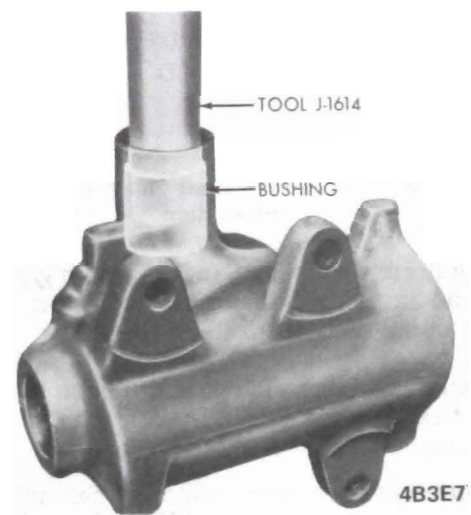

Figure 3E-7 Removing Pitman Shaft Bushing
1. Support the steering gear housing in an arbor press and press the pitman shaft bushing(s) from the housing using Tool J-1614, inserted from the lower end of the housing (figure 3E-7).
2. Press the new bushing(s) into position using Tool J-1614. Position the bushings as shown in Figure 3E-2.